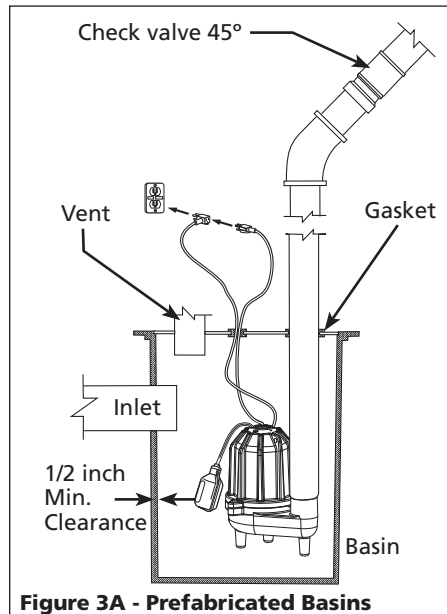

Figure 3A - Prefabricated Basins
- BCSE50T models are supplied with a detachable tether switch with a piggyback plug (see figure 3A). The length of the tether (distance of cord from float to clamp) should not be set shorter than 3-1/4 inches and should not be used in a basin smaller than 14 inches in diameter. If using a differential other than the factory setting, be sure when the pump shuts off at least 4 inch of fluid is left in the basin so the impeller remains submerged.